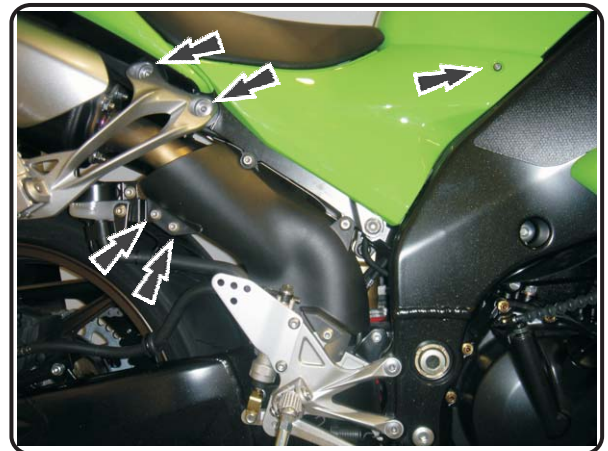

Fig. 1
- 1 Remove left and right passenger footpegs with brackets from subframe (see Fig. 1 for bolt locations).
- 2 Remove left and right side covers located directly below the rider's seat (see Fig.1 for bolt locations).